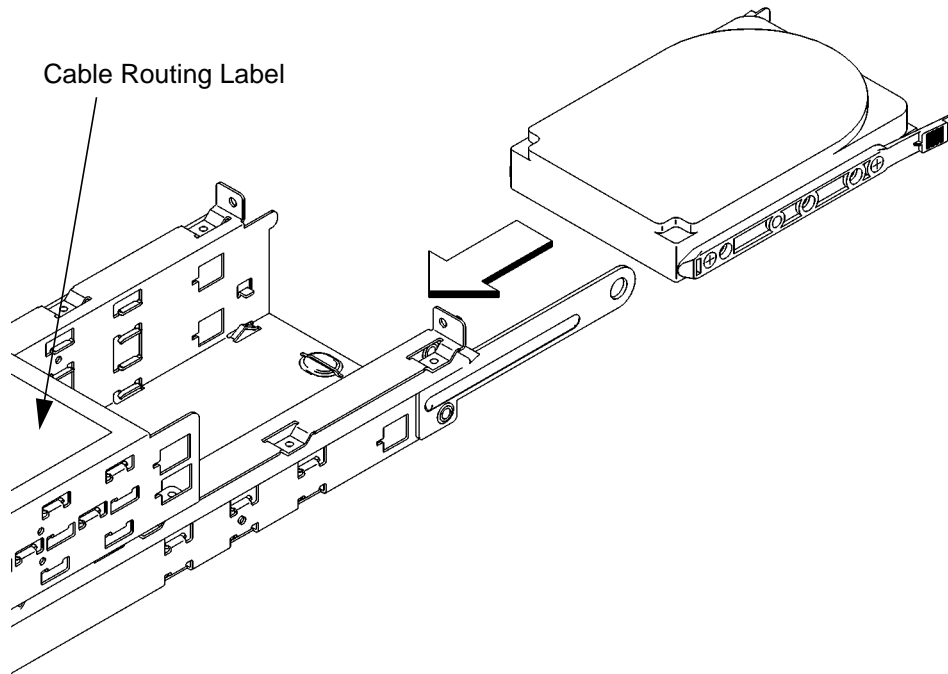

Figure 35 **Installing a Hard Disk Drive**
- 5 From the rear of the storage tray, line up the disk slides on the hard disk drive with the position 3 or position 4 slots in the storage tray chassis and slide it into place, as shown in Figure 35.